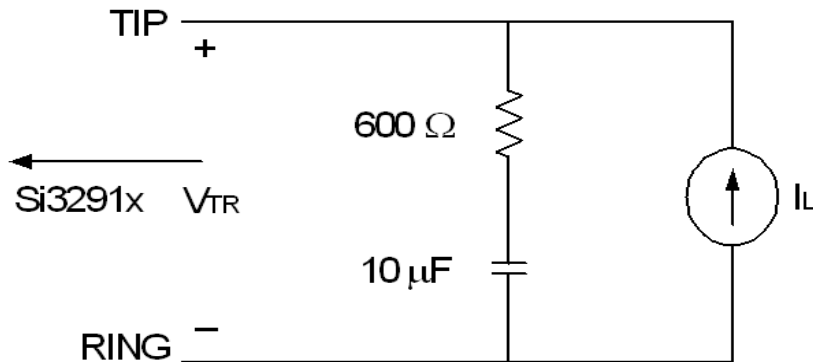

Figure 1. Test Circuit for Loop Characteristics
- Measured at TIP and RING with 600Ω termination at 1 kHz, as shown in Figure 1 on page 13.
1. Measured at TIP and RING with 600 Ω termination at 1 kHz, as shown in Figure 1 on page 13.
For Figures 1–5, all filter plots apply to a sample rate of $F_s = 8$ kHz.